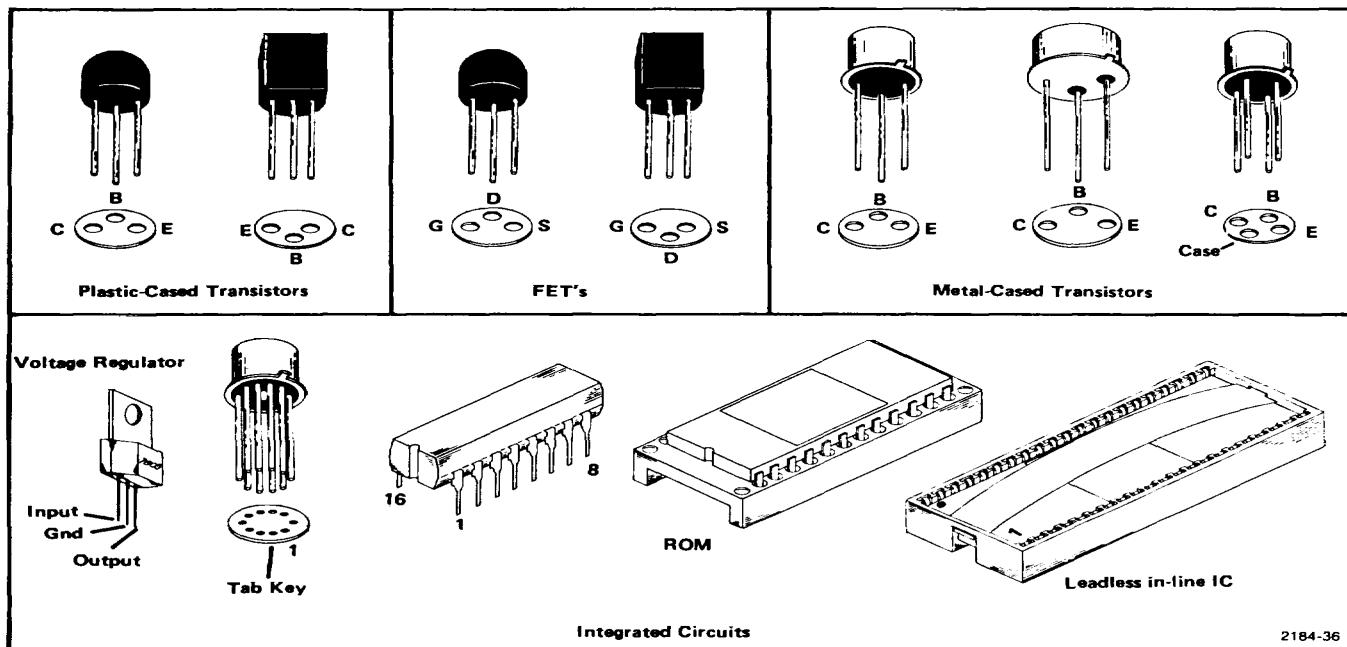

Fig. 5-4. Electrode configuration for semiconductor components.
Transistor and Integrated Circuit Electrode Configuration. Lead identification for the transistors is shown in Fig. 5-4. IC pin-out diagrams are shown, when necessary, on the back of the adjoining pullout schematic diagram.
d. --- Be sure the component (transistor or IC) is inserted properly in the socket (see Fig. 5-4 or the manufacturer data sheet).
Replacement semiconductors should be of the c type or a direct replacement. Fig. 5-4 shows the configuration of the semiconductors used in this instrument.